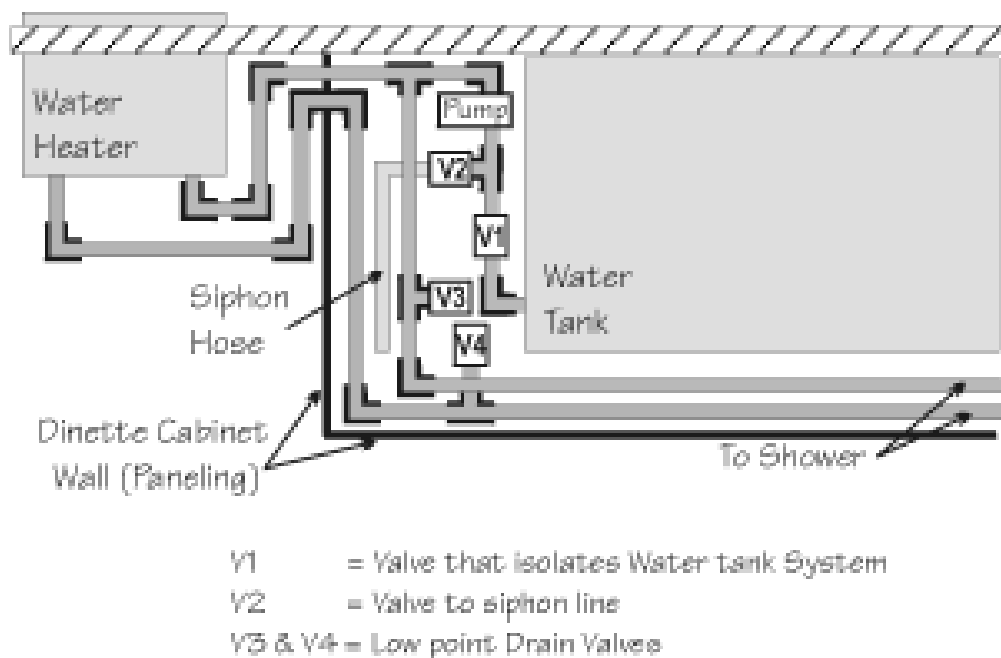

Fig. 4-4
1. Drain all tanks and fresh water lines by opening tank drain valve V_3 & V_4 (Fig. 4-4). Tank drain is outside left front corner of camper. Also open all faucet valves for air to replace water space. Lines may not drain completely if faucets are not open.